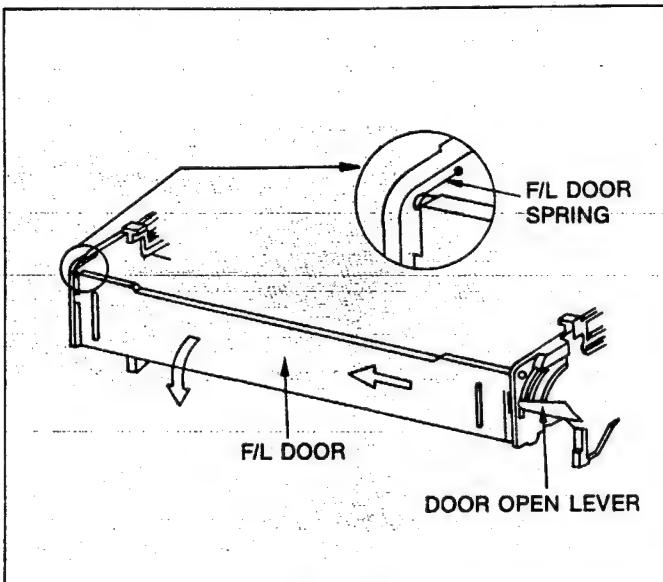

Fig. 42
1. Move the F/L Door to the left most and disengage the right door boss from the hole provided on (R) Guide Bracker while Warping F/L Door slightly. (Refer to Fig. 42)
5. Insert right door boss to the hole provided on (R) Guide Bracket while wraping F/L Door slightly. In this case, make sure that Door Open lever is positioned as shown in Fig. 42.